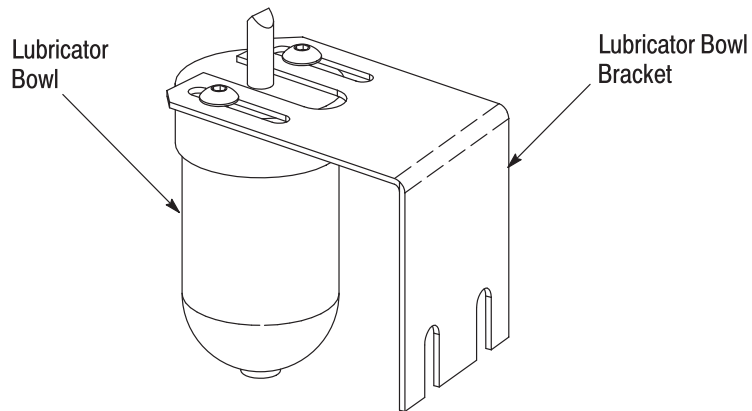

Figure 13
7.2. Lubricator Bowl Assembly 354550-3 (Figure 13)